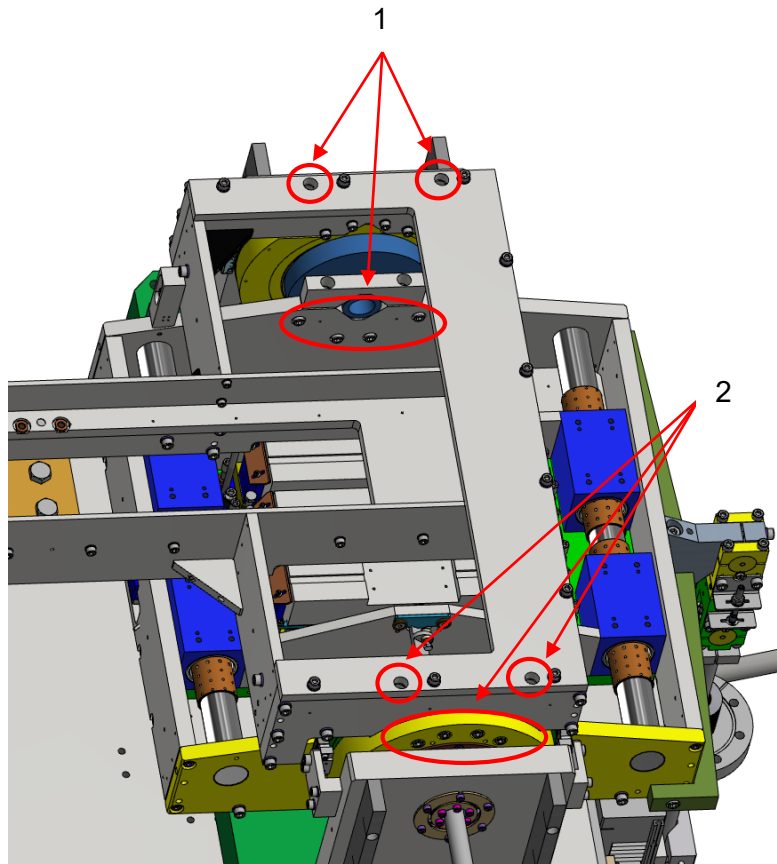

Figure 82: Top view of the mirror cradle
- D. Loosen and remove all screws (12x) indicated in Figure 82.